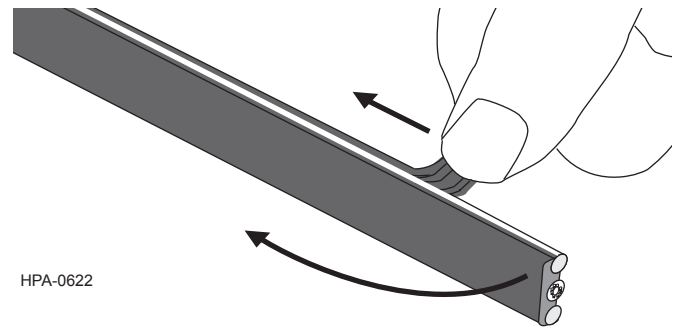

Figure 26
**Step 4:** Peel back the remaining jacket sections from the indoor cable component and the strength members (Figure 26).